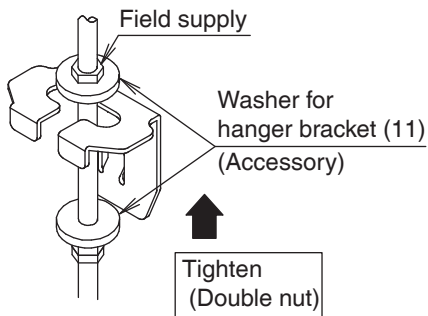

Fig. 6
(1) Install the indoor unit temporarily.
- Fix the hanger bracket to the suspension bolt. Make sure to securely fix the hanger bracket with the nut and the washer for hanger bracket (11) from the upper and lower side. (Refer to Fig. 6)